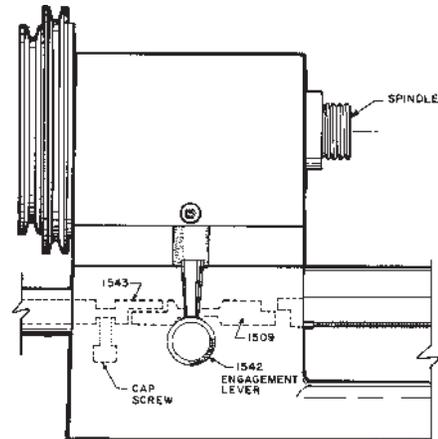

FIGURE 1—Lead screw engagement shafts in place inside lead screw support tube.
2. Grease the shaft with flats on both ends (P/N 15090) and slide it into the protruding lead screw support tube situated directly below the main spindle pulley. Ensure the end with a small flat enters first. Now slide the shaft with a single flat (P/N 15430) into the lead screw support tube. To guarantee that the shaft is "home", turn it one or two revolutions while applying gentle inward pressure to the end of the shaft. (See Figure 1.)